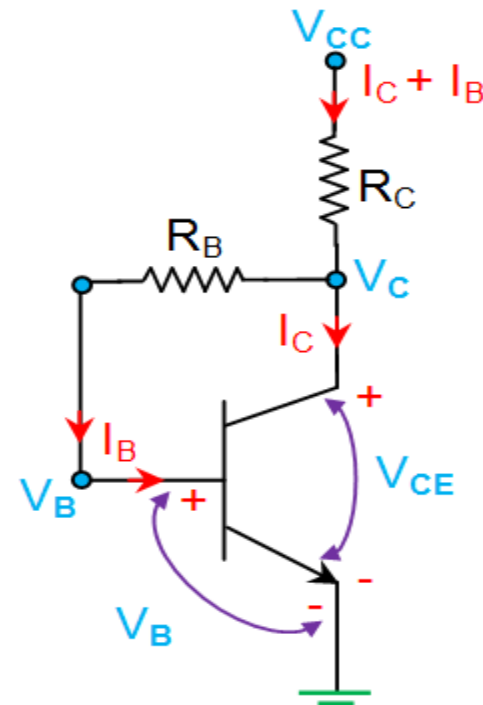

Figure 2 Collector Feedback Bias Circuit
- ⦿ In this circuit (Figure 2), the base resistor R_B is connected across the collector and the base terminals of the transistor. This means that the base voltage, V_B and the collector voltage, V_C are inter-dependent due to the fact that